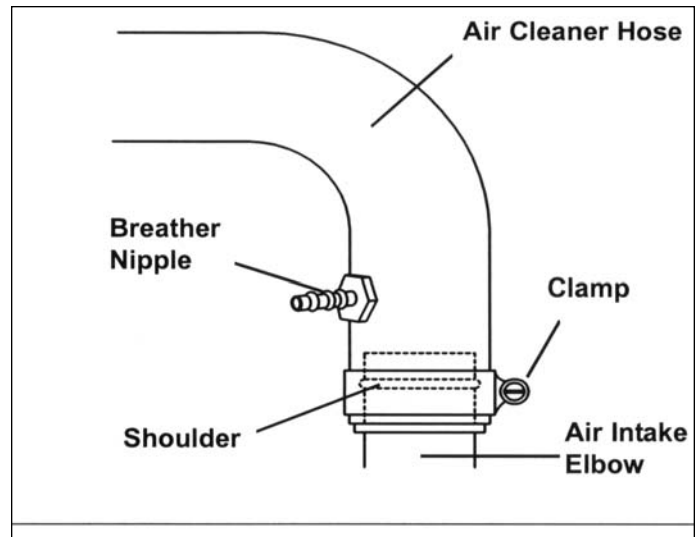

Figure 37- Carburetor Intake Elbow
9. Slide clamp to lowest point on air cleaner hose, and tighten clamp, Figure 37.
10. Reconnect breather hose from valve cover, to breather nipple on air cleaner hose. See Figure 37 and 38.